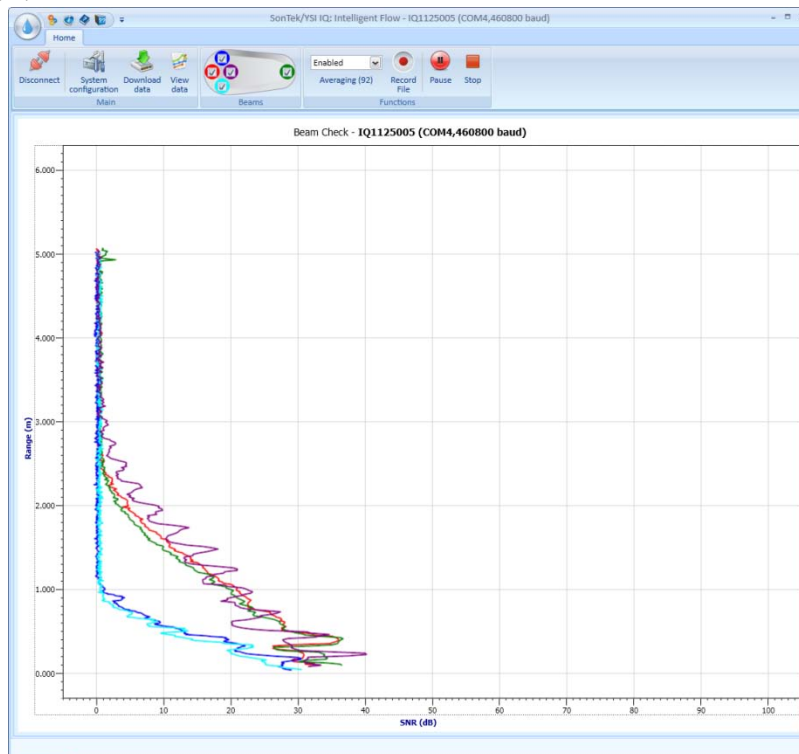

Figure 81. Beam check window in SonTek IQ software
- Beam check is found under Utilities → Beam Check, once open a graphic will be displayed as in Figure 81.